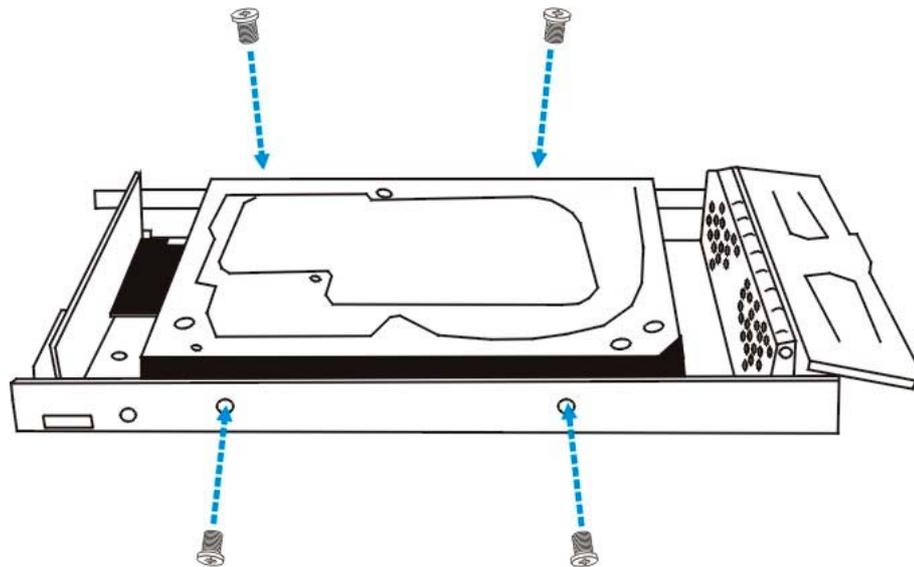

Figure 2-10: Insert the Retention Screws
Step 4. Insert retention screws. After the drive has been properly connected to the SATA-to-SATA MUX kit, insert four (4) retention screws to ensure the drive's secure installation. (See *Figure 2-10*).